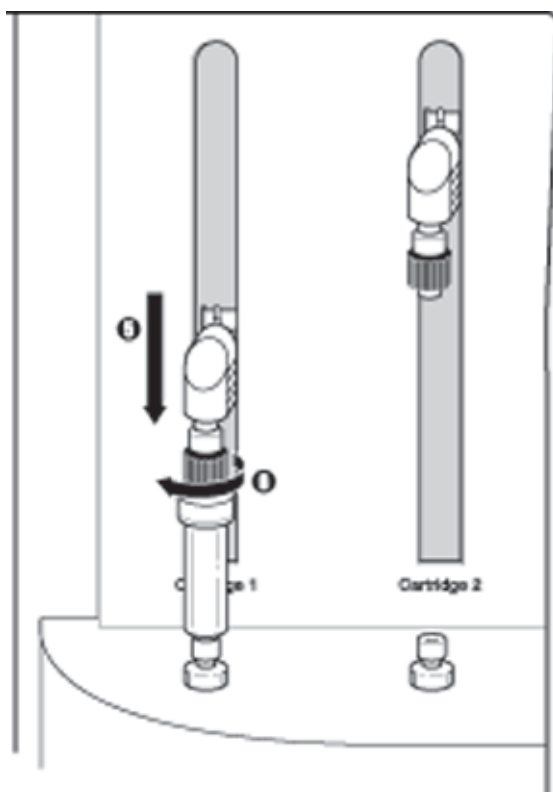

Fig. 6.25. Completing the cartridge installation procedure.
5. Lower the cartridge arm and twist the black collar clockwise to tighten the upper fitting and connect it to the cartridge (Figure 6.25). Do not use excessive force.